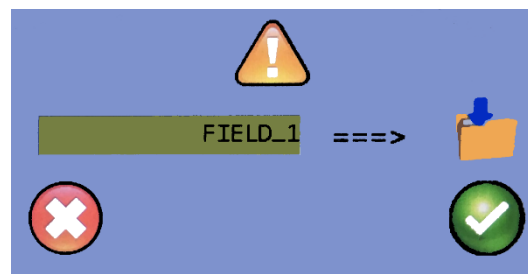

Figure 43
- Save current work to USB by pressing  icon (Figure 43).